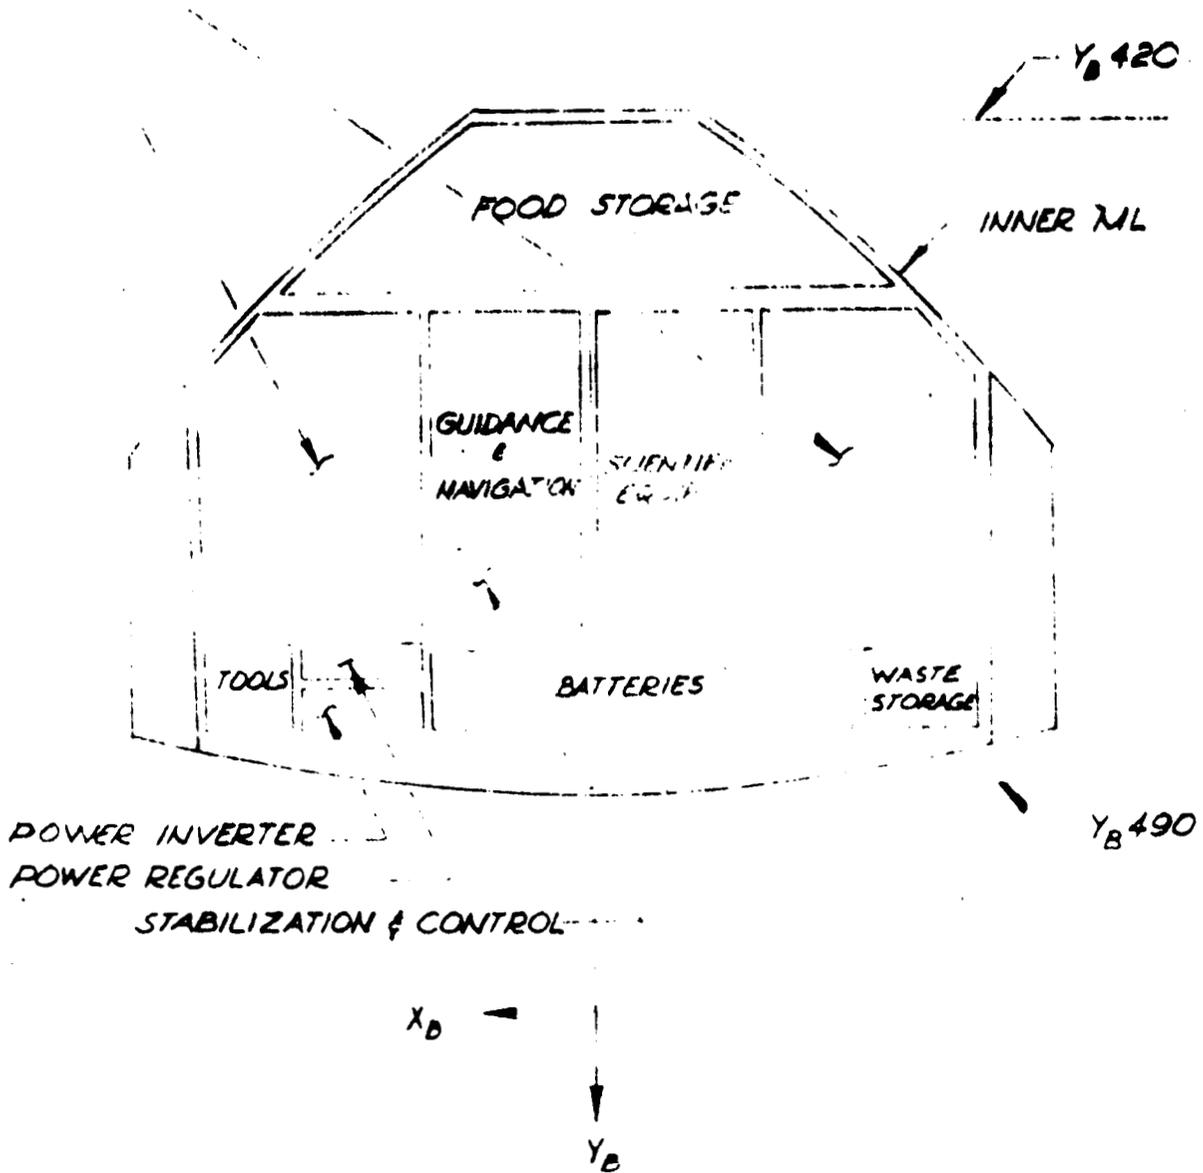

Figure 3. Lower Equipment Bay
2. Lower Equipment Bay (figure 3)